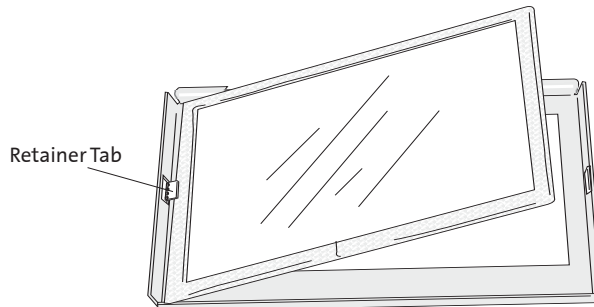

Figure 37a.
4. Place the glass panel within the frame oriented with the gasket seam at the bottom and the thinner side of the gasket against the frame. Carefully bend the retainer tabs back only enough to secure the glass panel. See fig.37a.